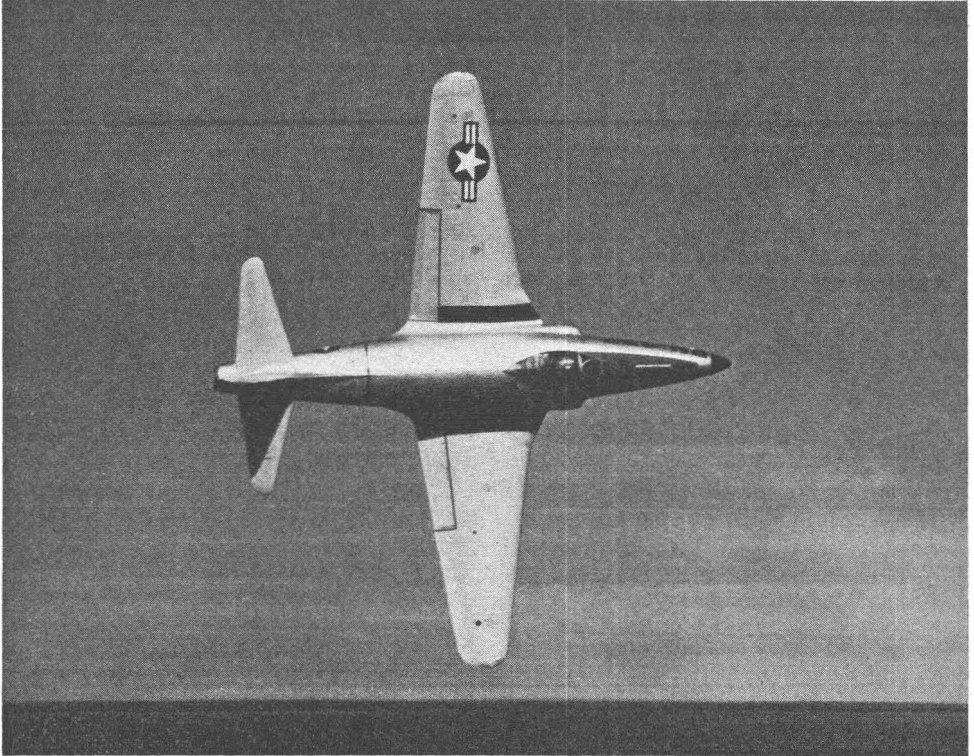

FIG. 1. P-80 traveling 500 m.p.h. photographed with moving film camera from another plane moving 500 m.p.h. in opposite direction. Relative speed 1000 m.p.h.
6. *Moving Film.* The moving film principle is one of controversy to the photogrammetrist. It was first believed to be valuable only to reconnaissance. However, in the past few years, the speed of aircraft has approached the speed of sound, and motion of the image during the exposure is becoming more and more a problem to the photogrammetrist. After a comparison of a pair of photographs has been made, under the stereoscope, exposed with the moving film principle and a pair without, one is easily convinced that the moving film principle is important in the field of photogrammetry. The focal plane shutter has never been considered satisfactory for mapping; but if the moving film principle is employed in the design of future mapping cameras, then it will be possible to make use of this type shutter. For example, Figure 1 is a photograph of an airplane traveling at a speed of 1000 m.p.h. with respect to the airplane from which the photograph was exposed. With the airplanes flying at a speed of 500 m.p.h. passing each other in opposite directions, a relative speed of 1000 m.p.h. was obtained.